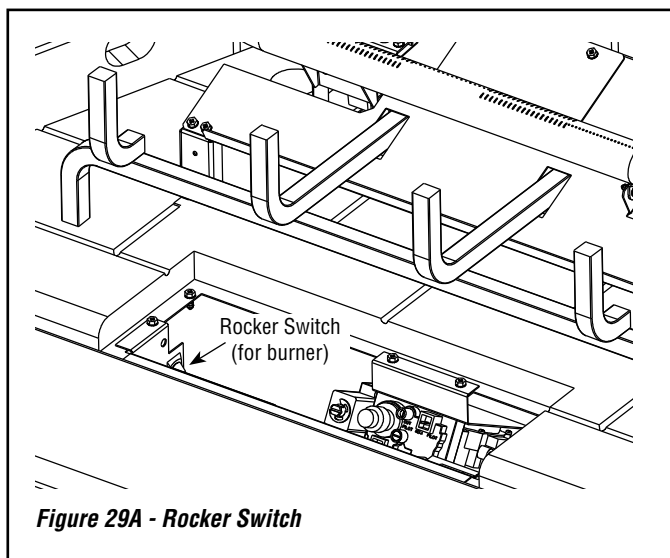

Figure 29A - Rocker Switch
2. When the remote/off switch is in the OFF position, the burner will operate from the rocker switch that is mounted near the module (**Figure 29A**) and connected to the brown switch wires.